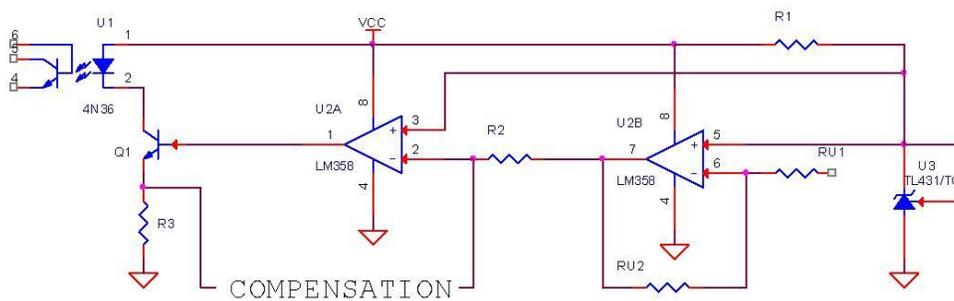

FIGURE 7
8) Operate feedback error amplifier output in current source mode by using a transistor in opto-LED path (Figure 7).